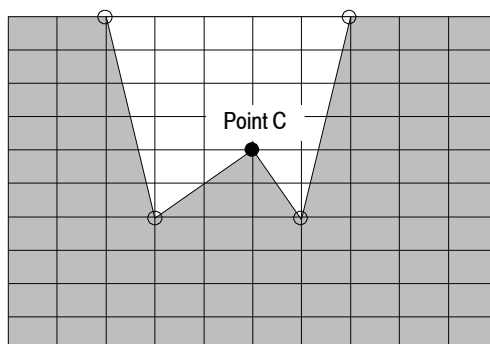

Figure 3-125: Adding Point C
- c. Press the **Set Selected Point Y** side key and set the vertical position of Point C to four divisions from the top edge (see Figure 3-125).